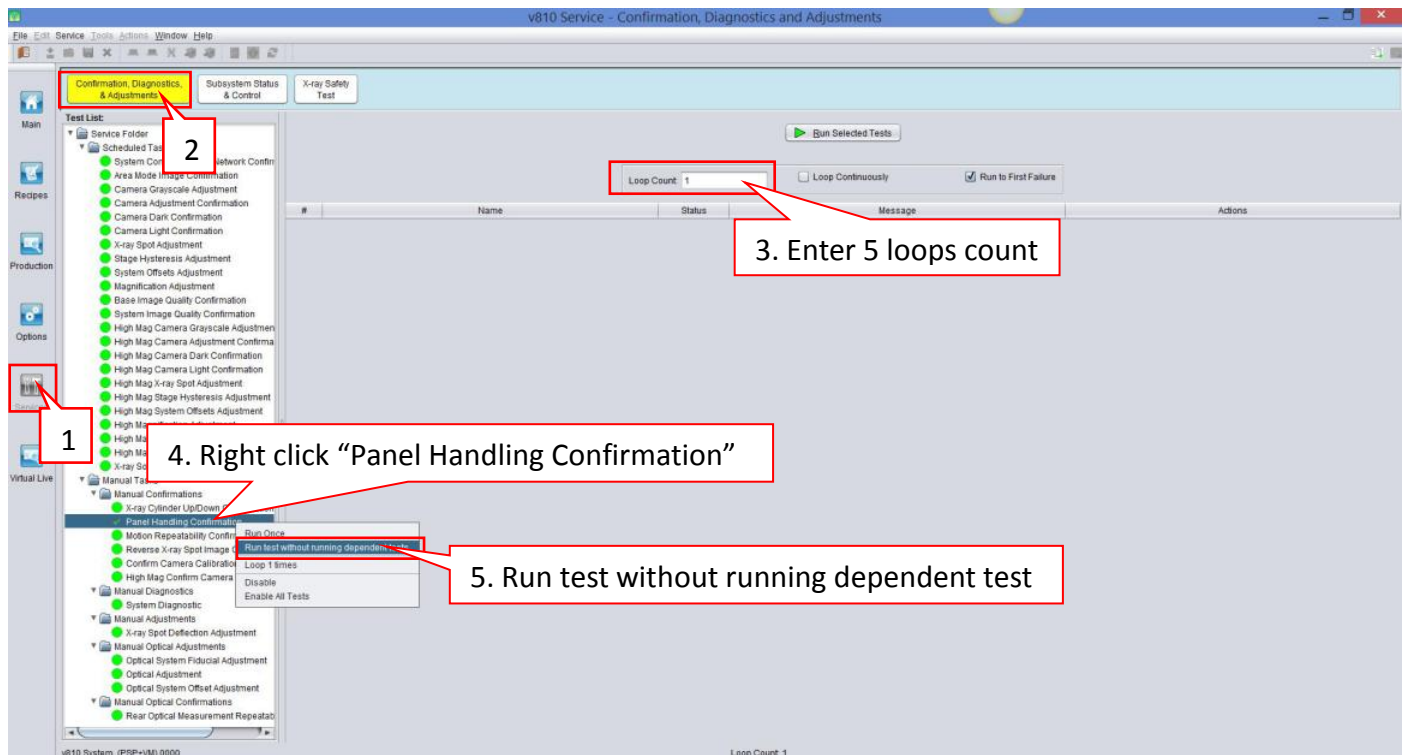

Figure 13 Panel Handling Confirmation
11. Go to services > Confirmation, Diagnostics & Adjustment > Run “Panel Handling Confirmation” for 5 loops as shown in Figure 13.